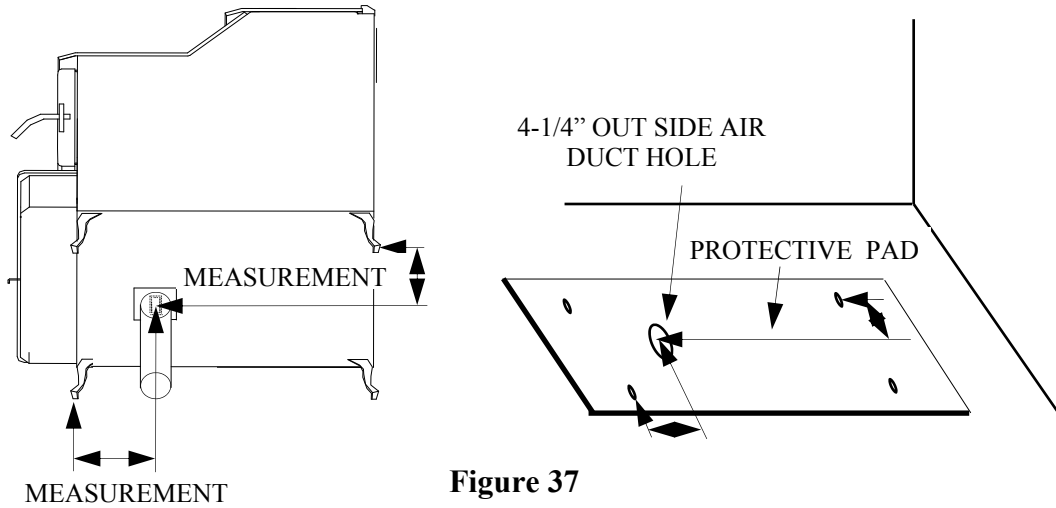

Figure 37
5. Obtain the outside air duct from the box, Part# MA 70075-01 Measure from center of front feet back to center of air inlet, and from center of side legs to center of air inlet, Use these measurements to center and mark the placement of the out side air duct. Pre-drill (4) 1/8" holes into the bottom of the heater to attach outside air duct to the heater with screws provided, attach, test fit, and temporarily leave the outside air duct on the bottom of the heater.
6. Measure the location of the outside air duct that's temporarily attached to heater using the legs feet for reference measuring points to find the center of out side air duct. Use these measurements to mark the center location of the out side air duct onto the protective pad. (see Page 43 Figure 37). **Note:** Be sure to measure one more time for floor joist , and or obstacles beneath floor where hole is to be cut.